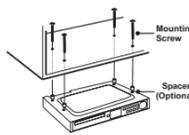

Figure 5
- c) Insert the four selected screws through each hole from the inside of the cabinet going down (see Figure 5).